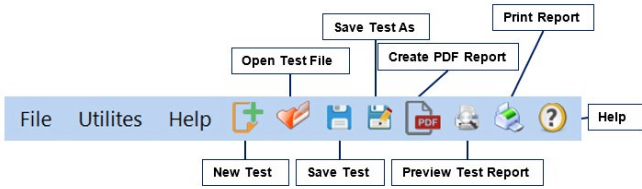

Figure 6: Toolbar
3. Eject the USB containing installation files and insert the USB security key. Open the Consolidation Test Software. Click **Help** along the toolbar (Figure 6) then select **Activation** from the drop-down menu. Enter the provided license number, USB ID, and activation code. The software will run normally for 30 days before this information is required to continue use. Activation information can be entered at any point within the first 30 days after installation.
The top toolbar (Figure 6) of the Consolidation Data Acquisition Software consists of icons used to start, open, save, create, and print test reports. These commands are also listed under the **File** dropdown menu.